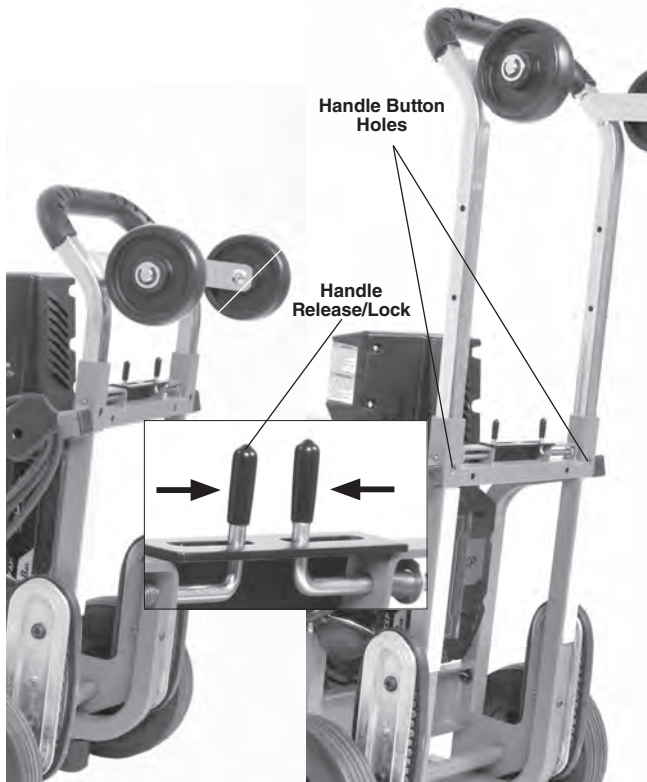

Figure 13 – Adjusting Telescoping Handle
7. Transport the drain cleaning machine to the work area along a clear path. Adjust handle if necessary (*Figure 13*). Move handle latches together and move telescoping handle to desired position. Confirm that the handle latches engage and the handle is securely held in position. If handle is moved past latch holes, the handle buttons will prevent the handle from pulling out. If this occurs, depress buttons to move handle.